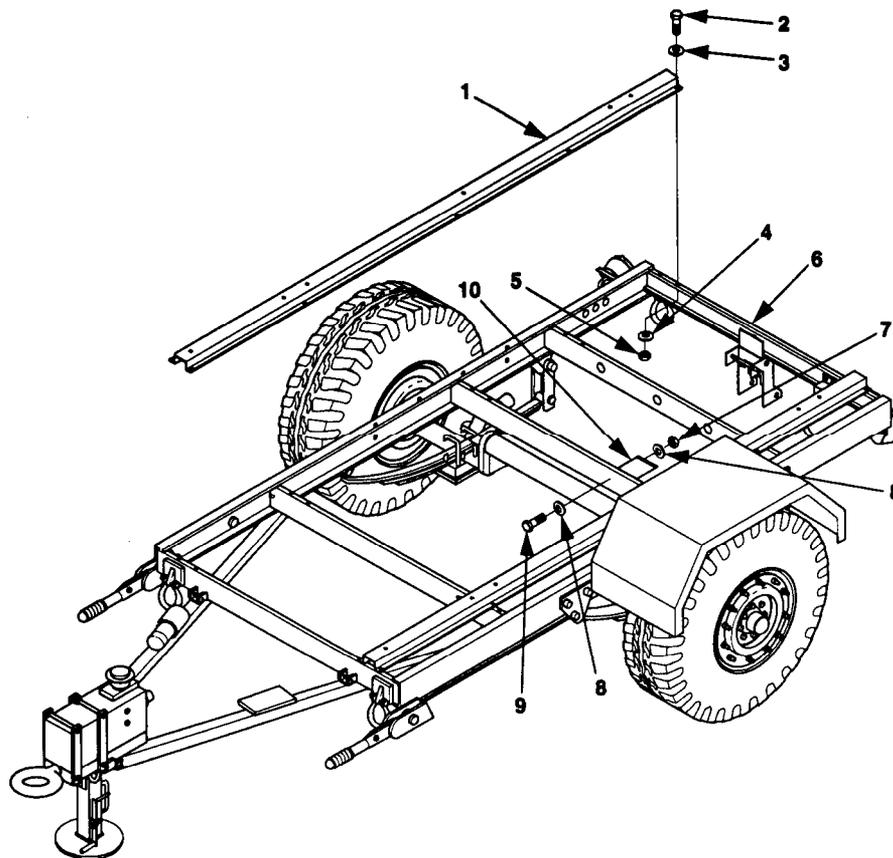

Figure 5-17. Generator Mounting Rails on 1 Ton Trailer.
1. Remove ten self-locking nuts (5, Figure 5-17), twenty flat washers (3 and 4), and ten cap screws (2) from each generator mounting rail (1).
2. Lift generator mounting rails (1) off trailer frame (6). Save generator mounting rails (1).
3. Remove two locknuts (7), four flat washers (8), two bolts (9), and bracket (10).
1. Install bracket (10, figure 5-17), using two bolts (10), four flat washers (9), and two locknuts (7).
2. Place generator mounting rails (1) on trailer frame (6). Align mounting holes in generator mounting rails (1) with mounting holes in trailer frame (6).